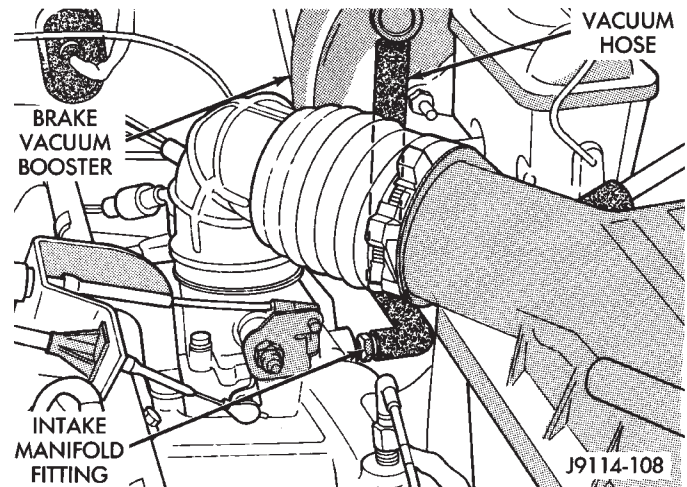

Fig. 17 Brake Vacuum Booster Hose—Typical
(13) If equipped with vacuum brake booster, verify that vacuum booster hose is firmly connected to fitting on intake manifold. Also check connection to brake vacuum booster (Fig. 17).